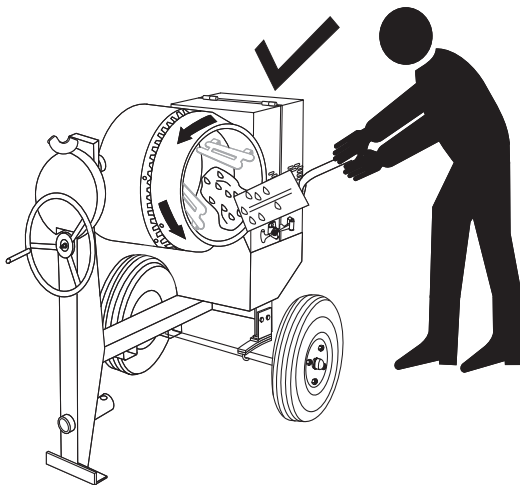

Figure 20. Filling Mixing Drum
2. As the drum rotates, use a shovel (Figure 20) to place the cement mix inside the drum, add water as required. Be careful to only place the **tip** of the shovel inside the drum.